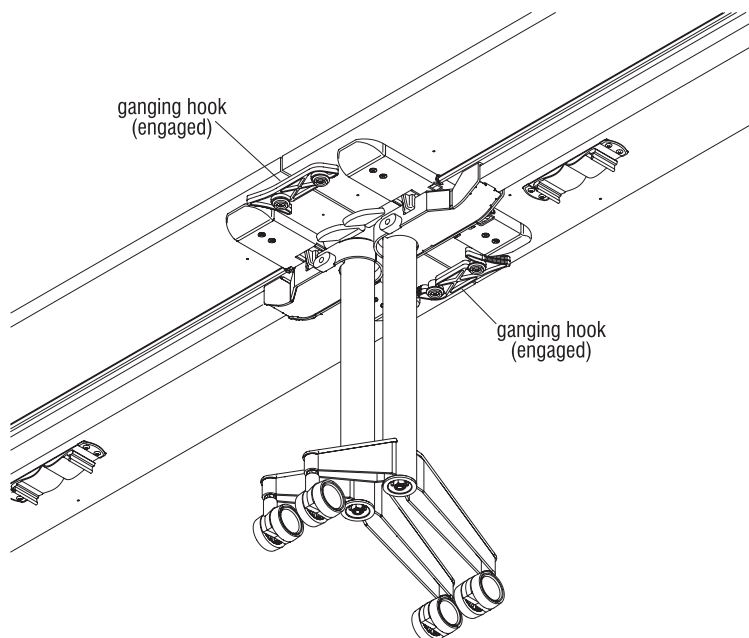

Figure 5 - 18" Wide Nesting Tables with Side-to-Side Ganging
3. Move tables together and swing the ganging hooks of each table around and engage the pegs of the opposite table, ganging the tables together (Figure 5).